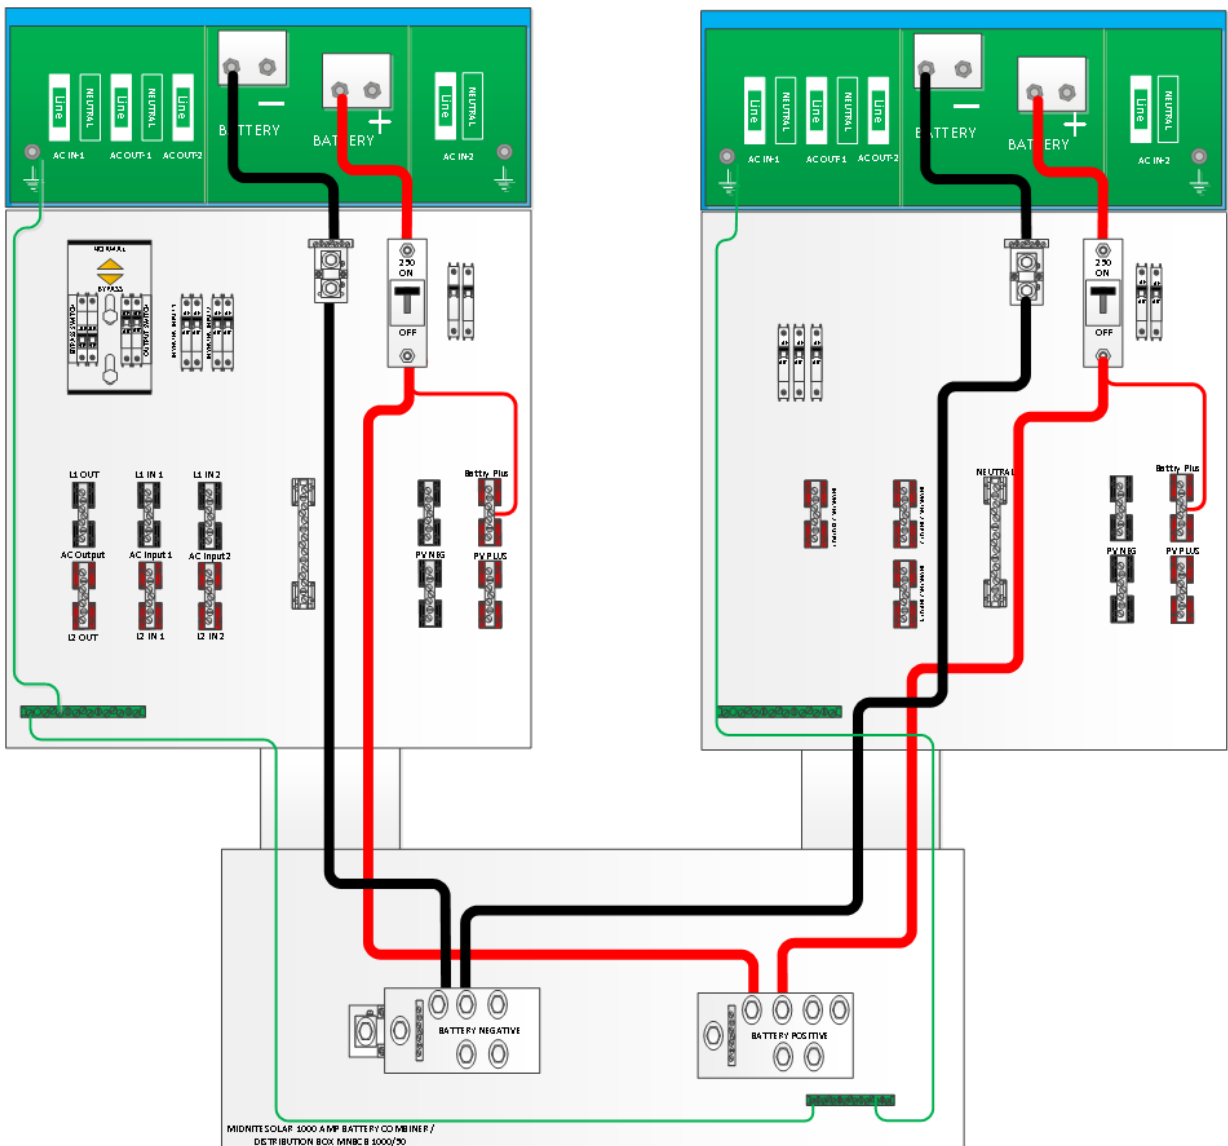

Figure 15 - NA 5kVA Dual Stack VE Panel Battery Connection Points
- When using a battery monitoring shunt in a dual configuration it should be wired as shown in the diagram in Figure 15 using a Battery Combiner Box such as the MidNite Solar MNBCB 1000/50 and using the 1000A/50mV shunt provided or replacing with a Victron Energy shunt for battery State of Charge (SOC).